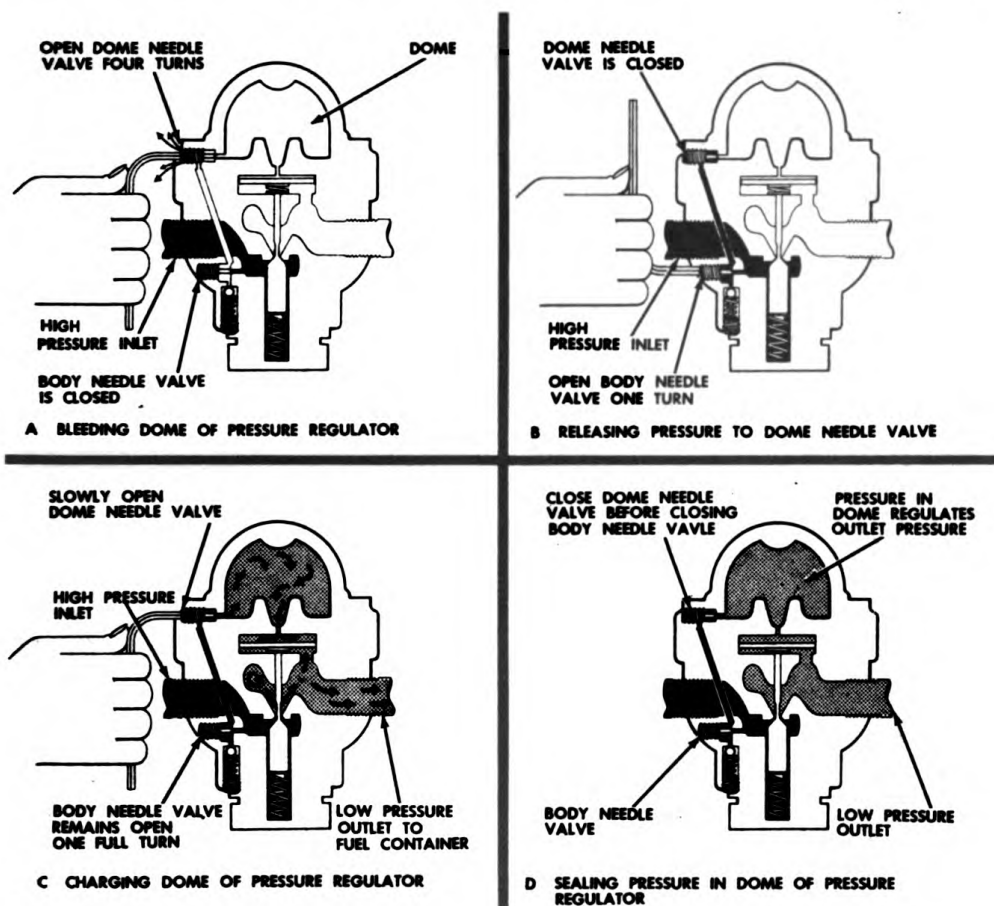
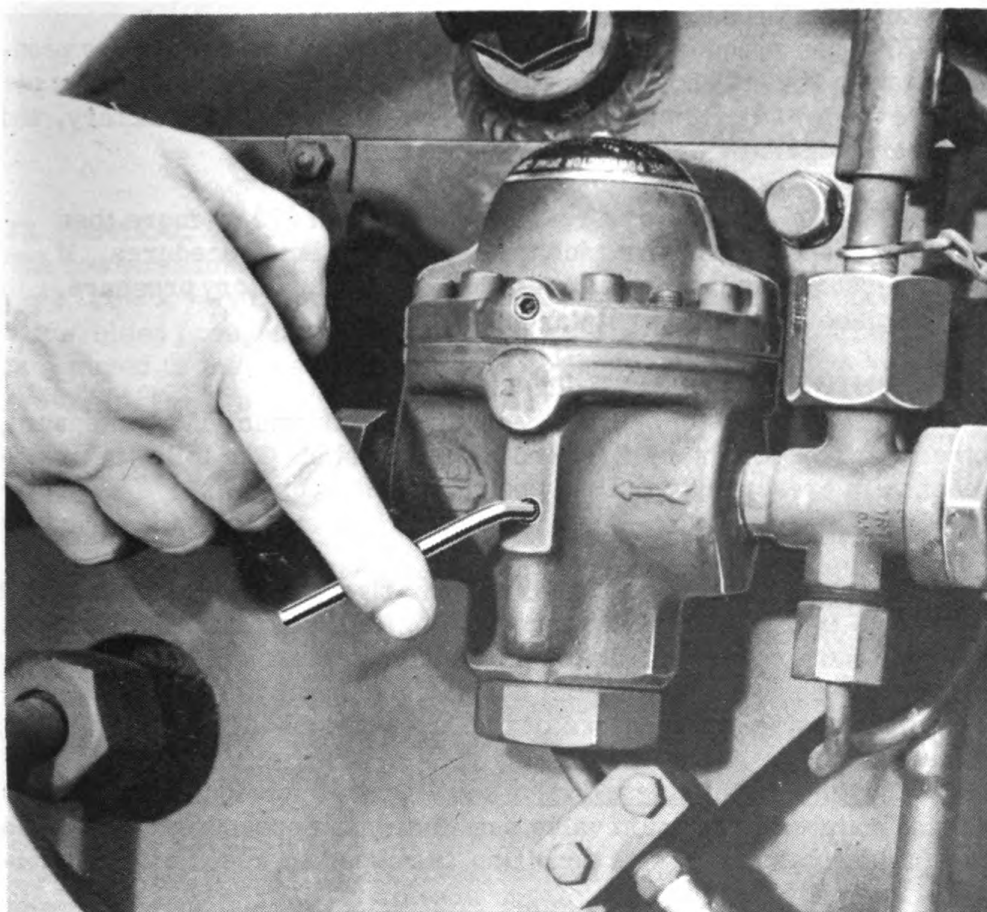

Fig. 57. Diagrammatic sketch showing adjustment of pressure regulator.
Fig. 59. Closing body needle valve.
- (7) Bleed dome of regulator as follows (fig. 57):
- (1) Open pressure container valve.
- (2) Open pressure cut-off valve.
- (3) Using hex wrench, open body needle valve one full turn (fig. 57). (Hissing sound results from leakage of air around body needle valve threads.)
(4) Open dome needle valve slowly, using hex wrench, and observe rise of pressure indicated on low pressure gage. When indicator reads between 370 and 380 pounds per square inch, close dome needle valve.
- (5) Close body needle valve (fig. 59).